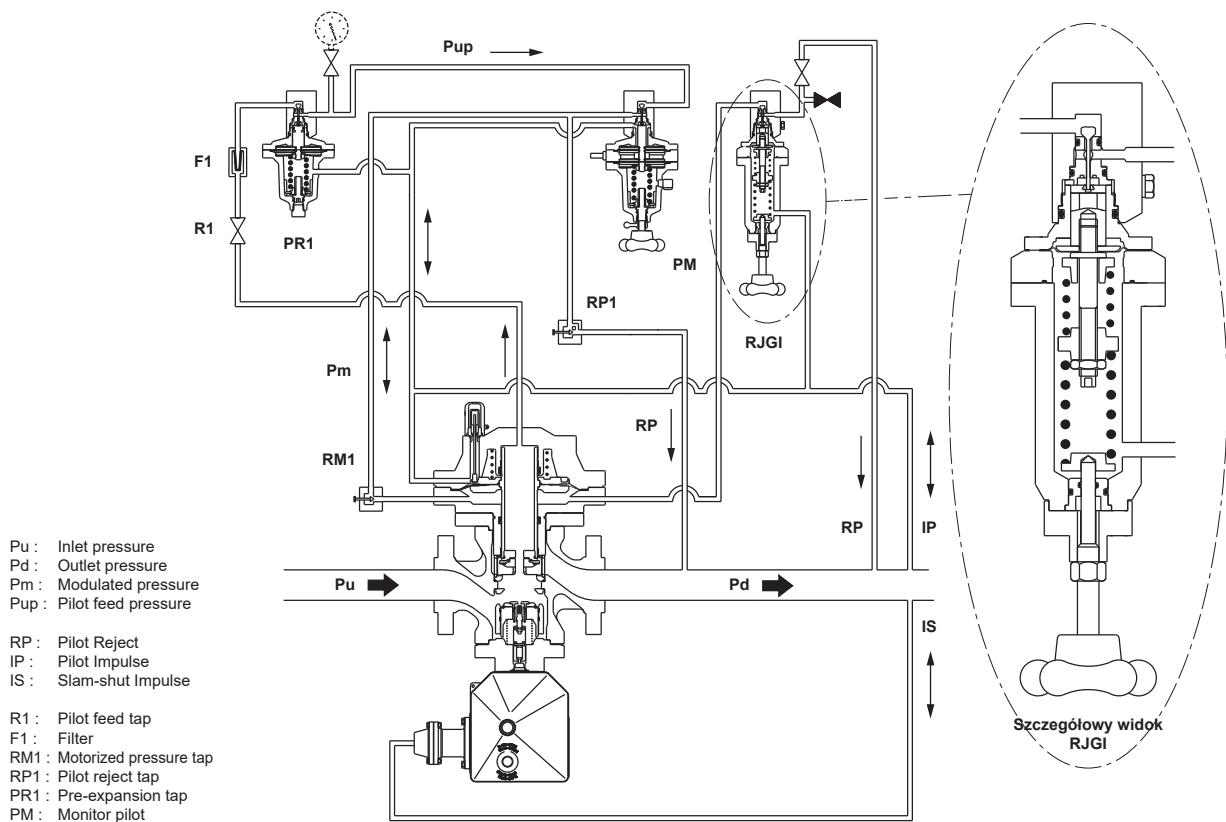

Figure 2. Principle of Operation - Type EZH OS2 Regulator, DN 25 - 50 - 80 with 114DA, 114MD and RJGI
RJGI (Accelerator) Figure 2
- Hard trim (Figures 2, 5, 6, 7, 8)